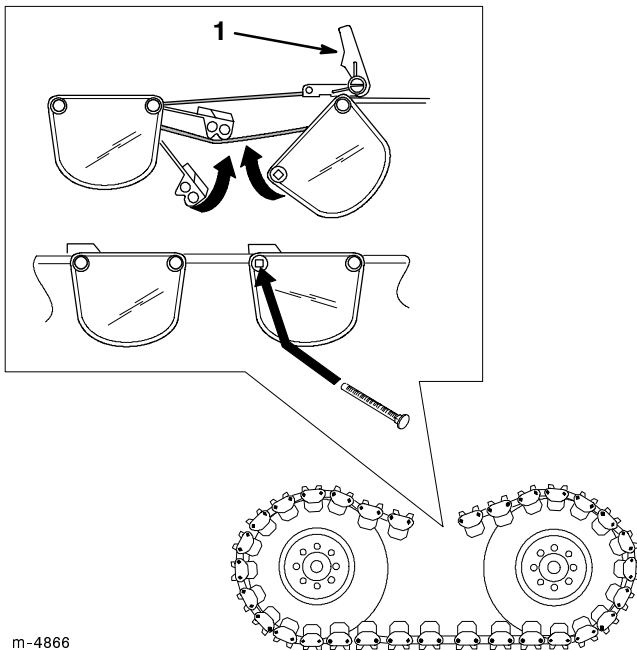

Figure 5
6. Pull the front and rear of a track up and over the tires and secure them with the installation tool (Fig. 5).